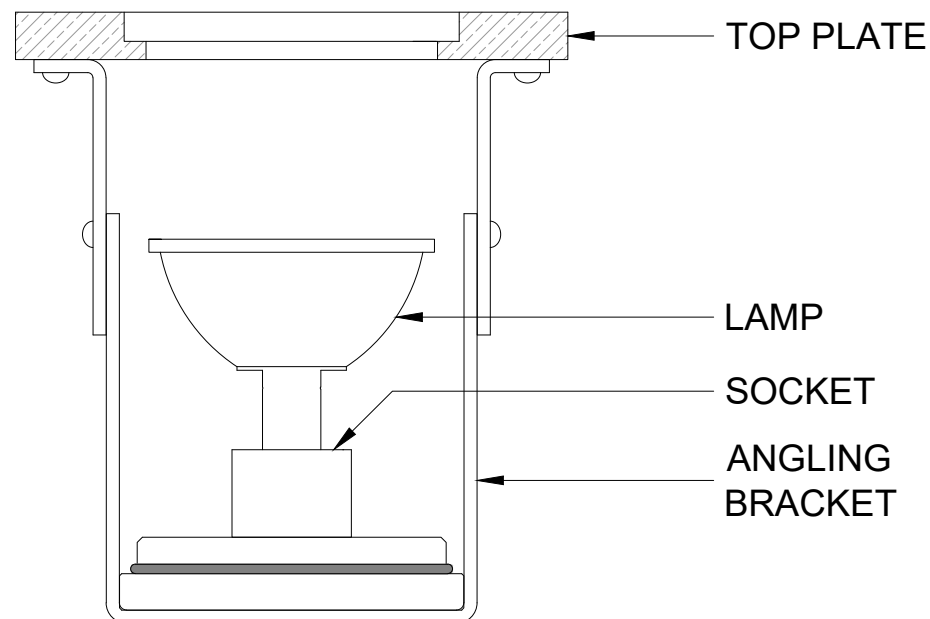

Figure 3
4. Unscrew brass Housing from rear brass Plug, exposing the lamp (Figure 3). Do not attempt to separate the End Cap with the glass lens from the cylinder.